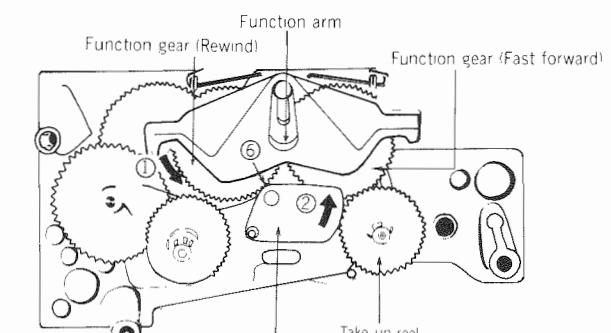
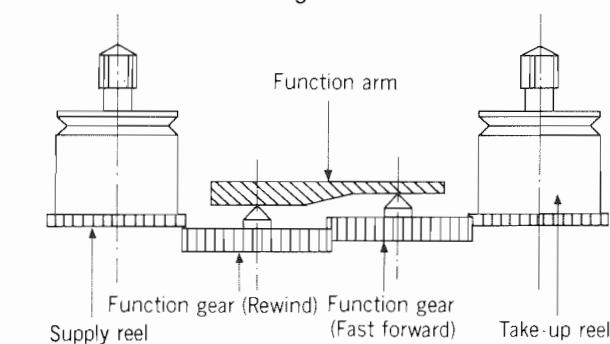
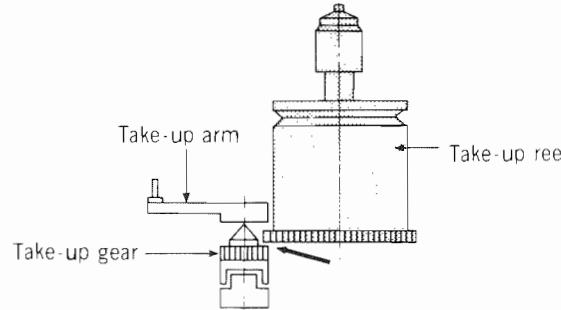
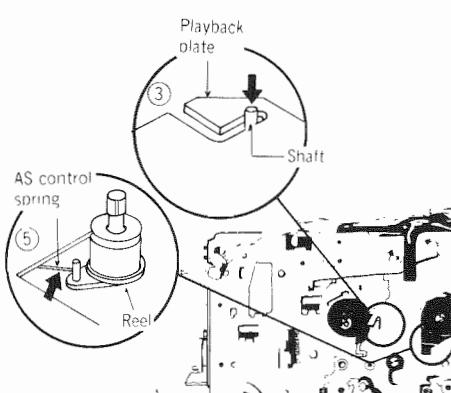

Figure 29
Figure 30
Figure 31
Figure 32
- ① Turn the F arm (shown in Figure 29) in the direction of the arrow ① until it touches the point shown by arrow ⑥ on the Take-up arm. The Reel, the Function gears and Function arm go into the mode shown in Figure 30.
- ② Turn the Take-up Arm (shown in Figure 29) in the direction of the arrow ② until the Take-up Gear and Reel underneath separate from each other as shown in the Figure 31.
- ③ Lift out the Take-up Arm operating shaft (shown in Figure 31) from the hole on the Playback Plate as shown in Figure 32, and secure the Gear Assembly with screws.